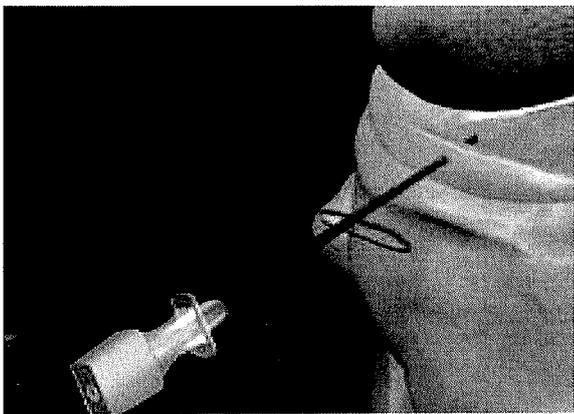

Figure 1
2. With the knee in flexion and internal visualization from the most advantageous portal (medial or lateral), place a straight or curved needle with stylet outside-in across the meniscal tear (Figure 1). This is achieved by external palpation and internal visualization. Advance the needle with stylet into the side wall of the meniscus through the tear. A suture circle may be used to stabilize the meniscus. After safe skin placement, the knee can be extended.